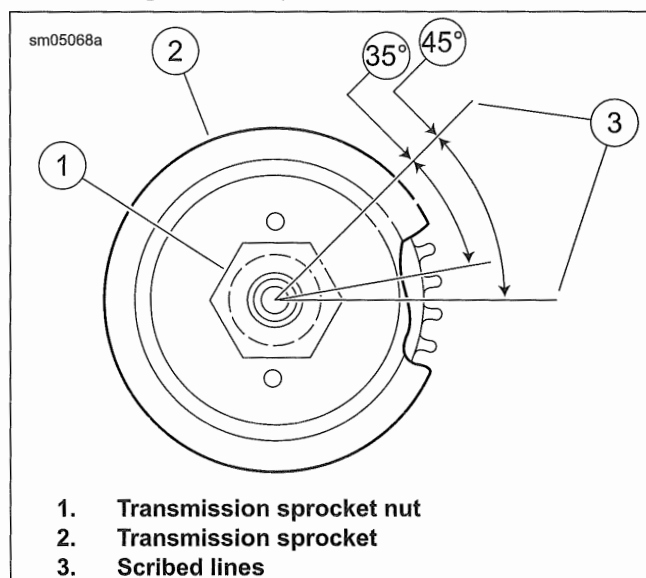

Figure 5-38. Transmission Sprocket Nut Final Tightening
See Figure 5-38. Scribe lines (3) or use TORQUE ANGLE GAUGE (PART NUMBER: TA360) for final torque.